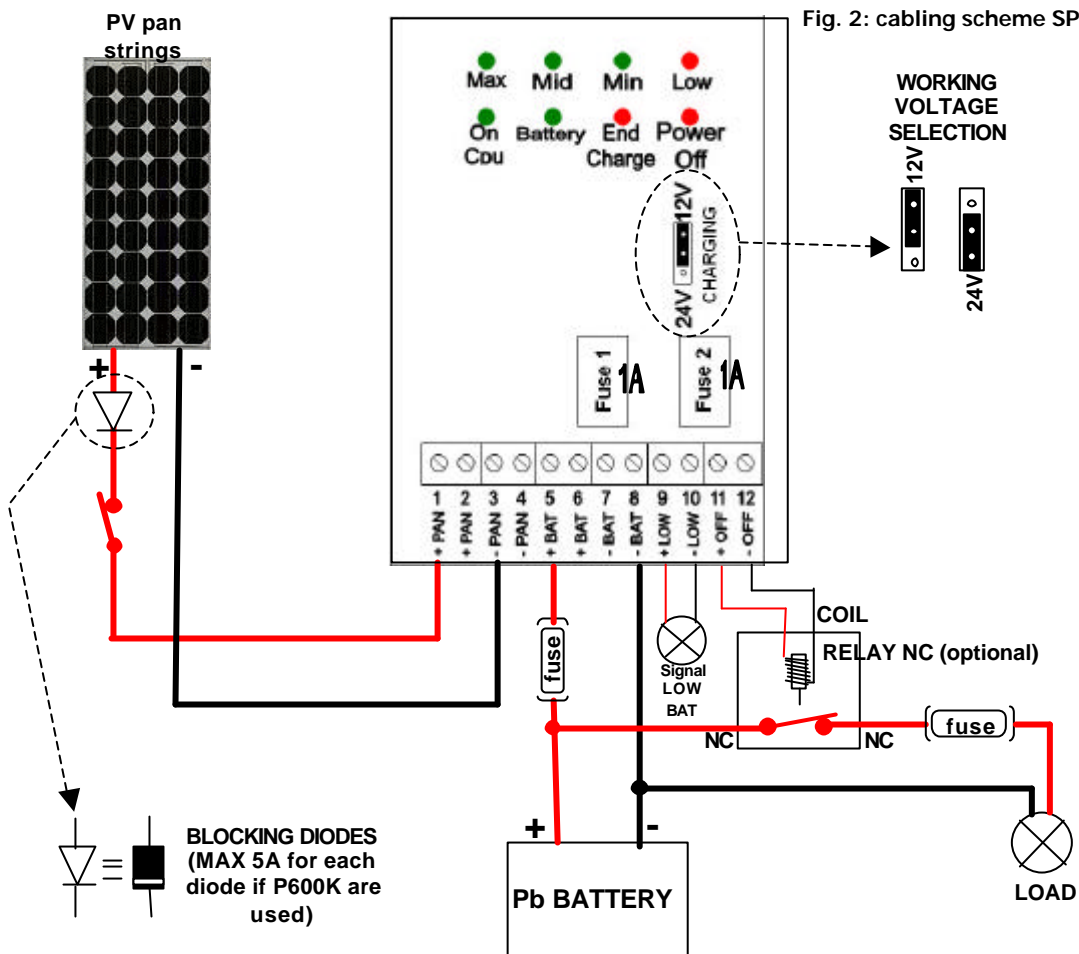

Fig. 2: cabling scheme SPC15
- Select working voltage 12V or 24V as in figure 2, 3 and 4.
- If you want to use an external relay normally closed (optional) to interrupt the supplying of load when battery is low, cable it as first component, as in figure 2. Relay's nominal supplying voltage must be the same voltage of working of the PV system
- Cable PV modules referring to working voltage according to figures 2, 3, 4.
- Put in series in each string, on the positive pole, the correspondent blocking diode (see figures 2, 3, 4).
- We advise to use a switch between PV modules and charge regulator as indicated in figures 2, 3, 4.